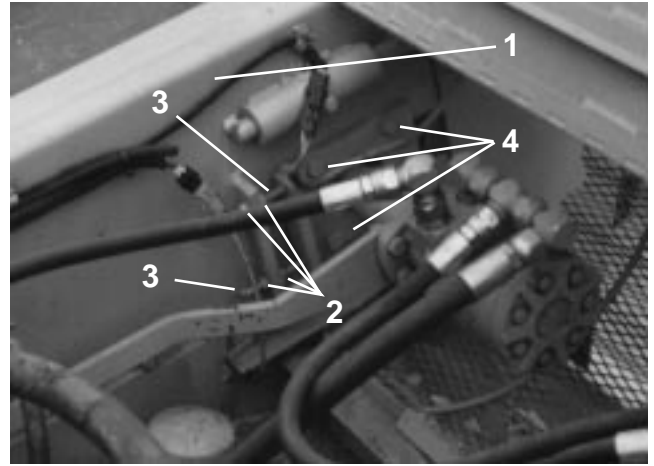

Figure 21 Conveyor Head Pulley Adjustment
2. Should it be impossible to obtain centered belt operation by adjusting the tail pulley (Fig. 20) it will then be necessary to adjust the head pulley as outlined below. (Fig. 21)